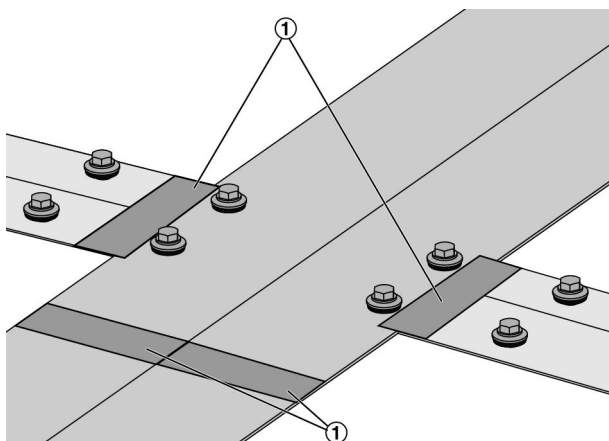

Fig. 19: Sealing the joints
2. ▶ Seal the joints (Fig. 19 /1) between the cover strips with the supplied adhesive strips (100 x 40 mm).